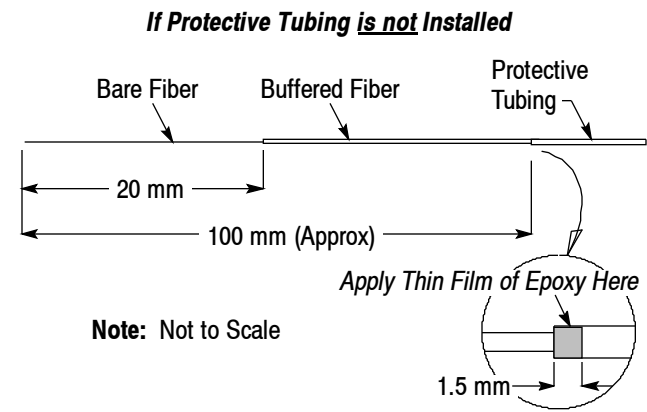

Figure 3
- g. Using the fiber stripping tool, strip the buffered fiber to the dimension shown in Figure 3, exposing the bare fiber. Using a lint-free tissue or cloth dampened with the isopropyl alcohol or acetone, clean the bare fiber.
- j. Apply a *thin film* of epoxy around the outside edge of the protective tubing to the width given in Figure 3.